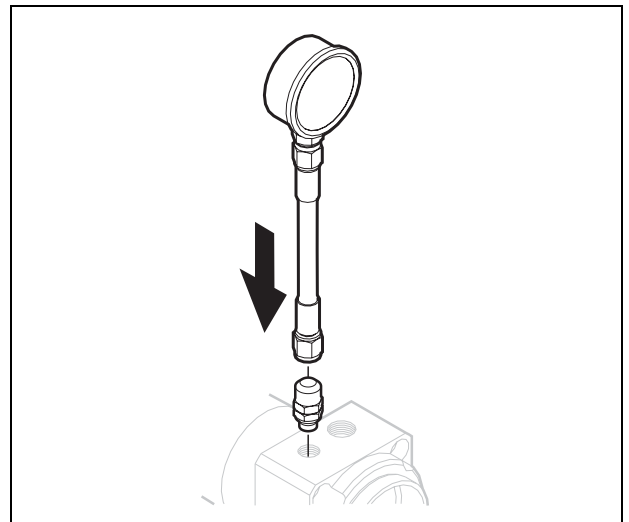

Fig. 24 Connect a pressure gauge to the feed out cylinder
3. Connect a gauge fitting and a suitable pressure gauge to the empty port on the feed out cylinder. Port thread BSPP #4, See Fig. 24.